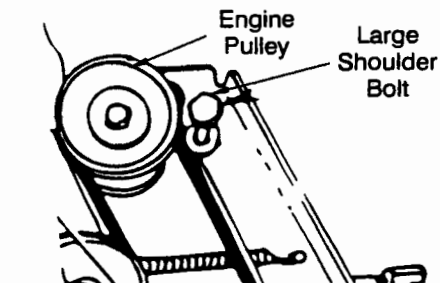

FIGURE 15
- Remove the large shoulder bolt and washer on the left hand side of the engine pulley with an adjustable wrench. See Figure 15.
- Reassemble the large shoulder bolt and lockwasher as shown in Figure 15.